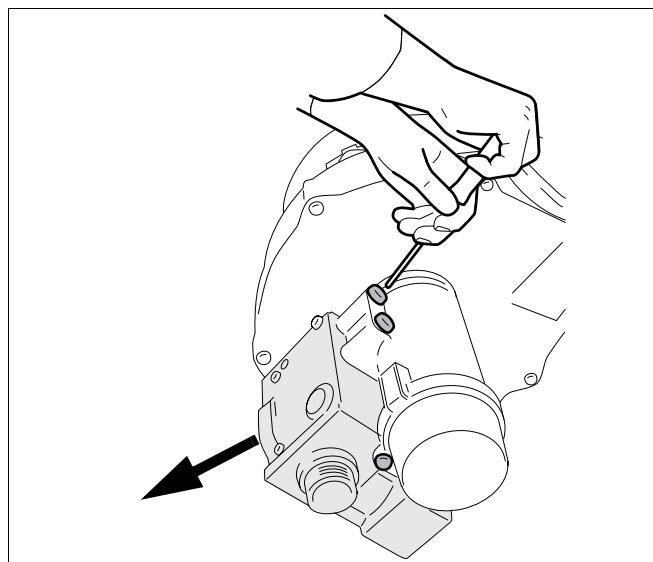

fig. 68 Remove gas valve
- Remove the gas valve (fig. 68).